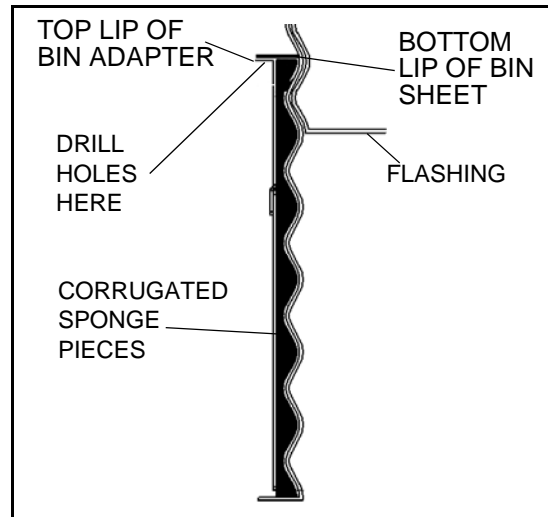

Figure 4.5
1. Two corrugated sponge pieces (not supplied) can be arranged as seen in **Figure 4.5**. Drill two 3/8" holes through the upper bin plate adapter and bottom lip of the bin sheet.